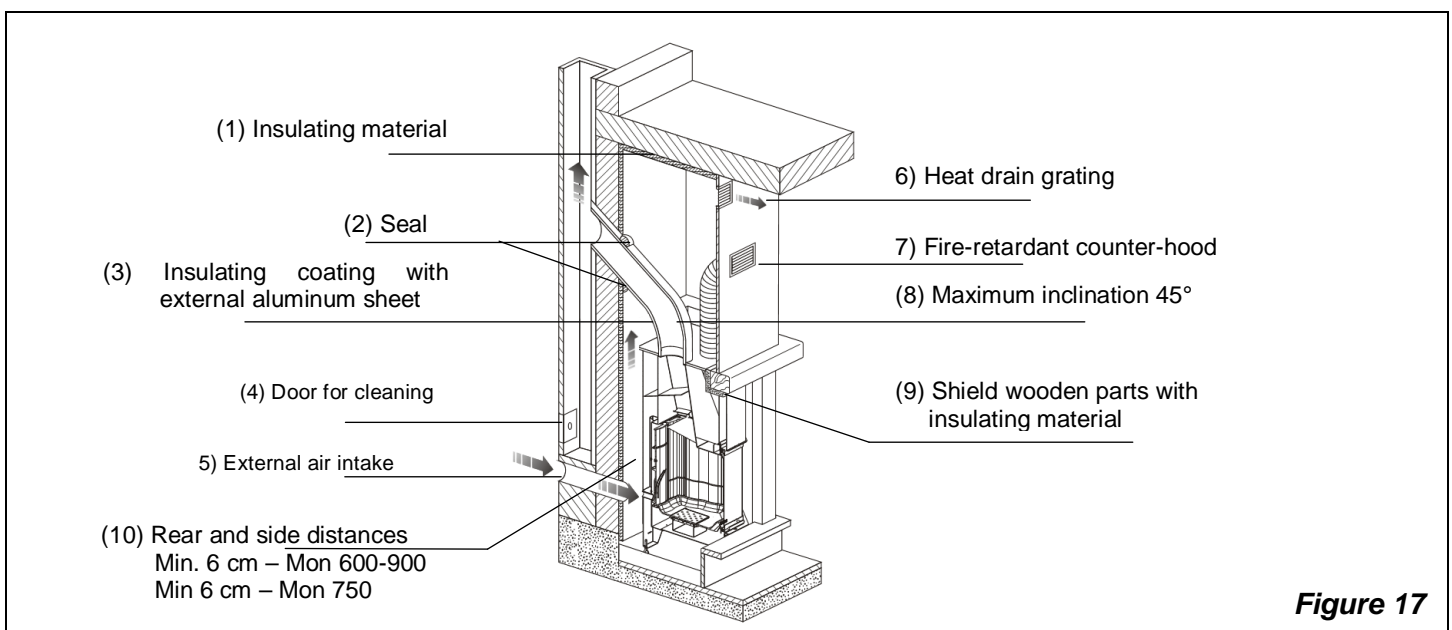

Figure 17
The heat vent grating (Figure 17 pos. 6) has to be installed on the upper part of the hood at about 20 cm from the roof. This **must always be installed** since its function is that of letting the heat collected within the hood (overpressure) flow out into the room.